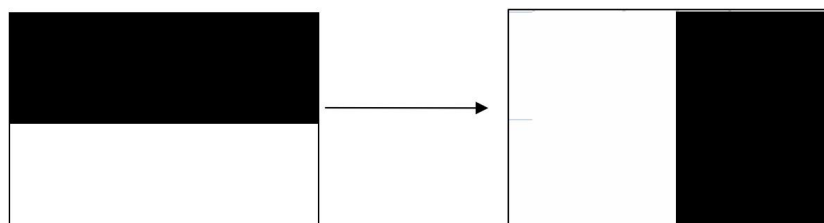

Figure 4-1 The typical power consumption measure pattern
1. The typical power is measured with following transition from horizontal 2 gray scale pattern to vertical 2 gray scale pattern. (Figure 4-1)